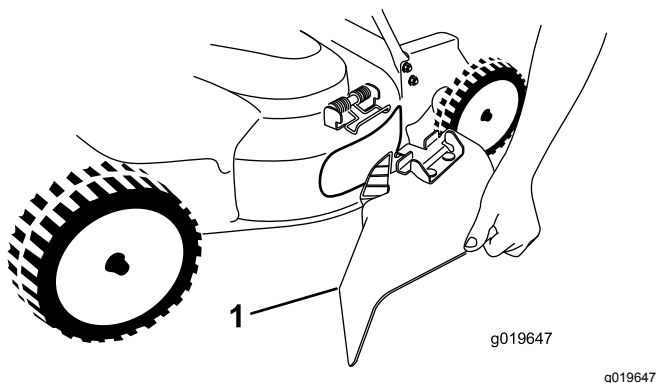

Figure 25
5. Install the side-discharge chute (Figure 25) by pulling up on the spring, placing the chute over the opening, and lowering the spring over the tabs on the top of the discharge chute.